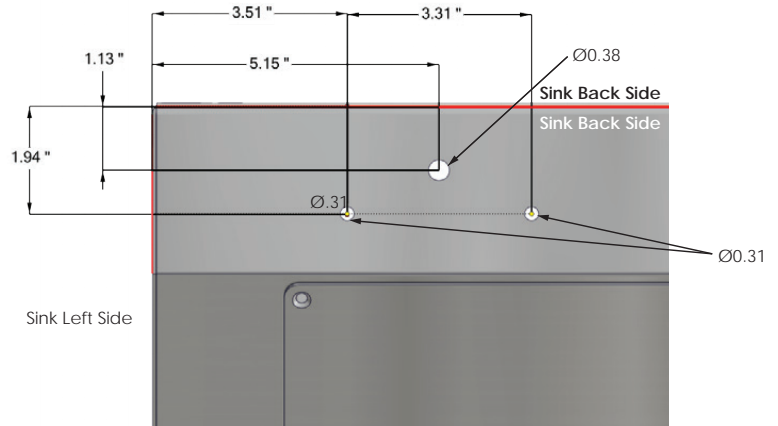

Fig. 31: Drill locations on sink top
1. To mount the timer housing on the sink top, drill three holes using the hole dimension sizes and locations as shown in Figure 31. Two holes are for mounting the timer housing, one for threading the three flow-switch timer wires to the top side for connection to the timer read-out.